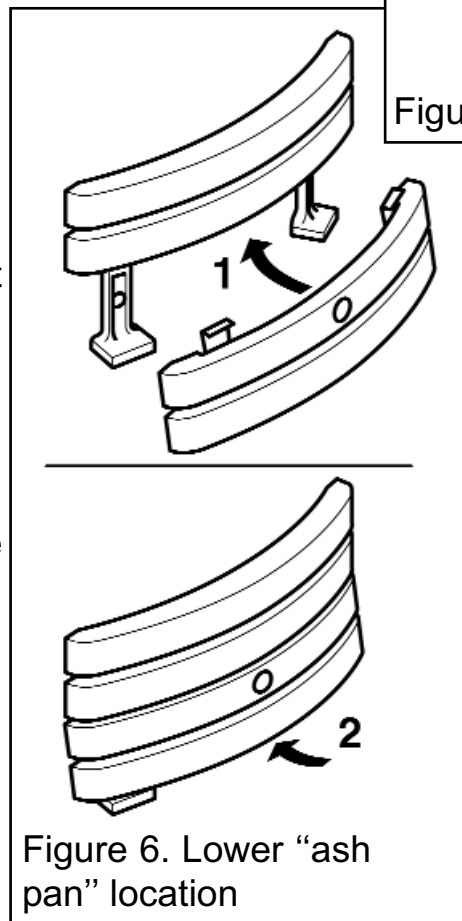

Figure 6. Lower "ash pan" location
- The lower 'ash pan' should be located as in figure 6.